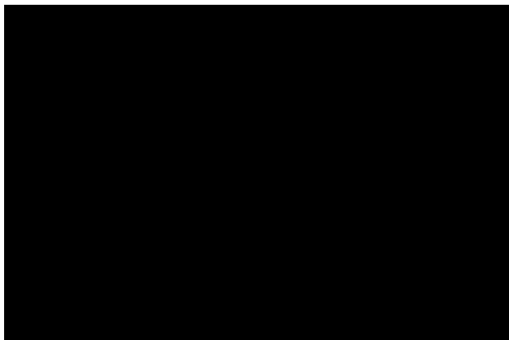

figure 12.
- When PV module on the roof, start install on the mounting structure as shown in figure 12.